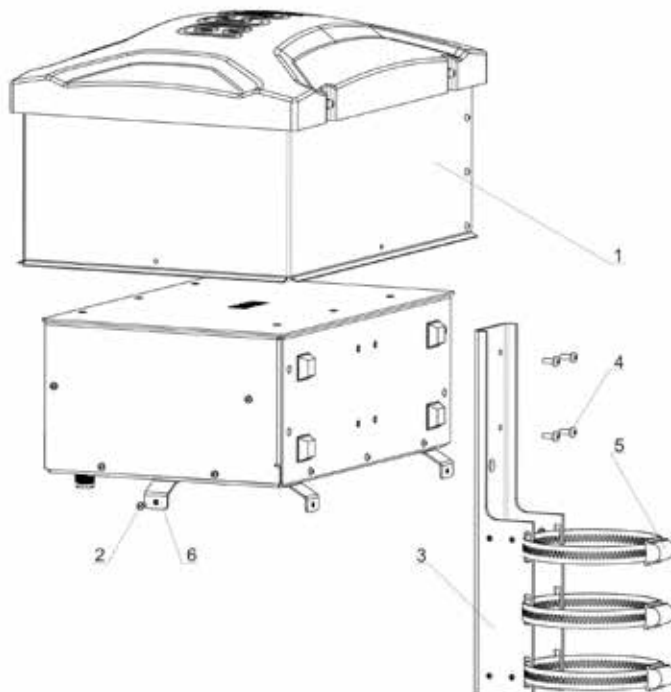

Fig. 2-6. Mast installation bracket
2.4.2. If the *mast* mounting option is chosen – figures 2-6 & 2-7